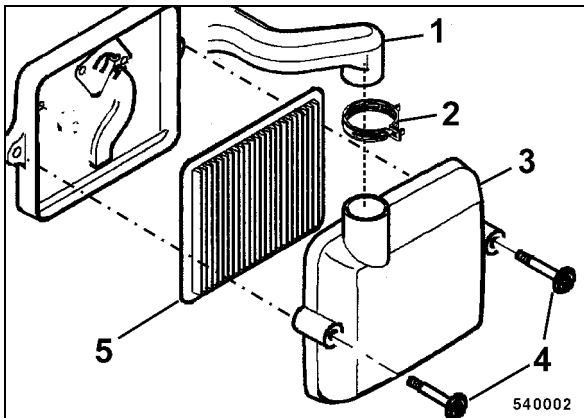

Fig. 57
- Loosen hose clamp (2) (Fig. 57) and pull the air supply hose (1) off the air filter housing.
- Unscrew two fastening screws (4) and remove cover (3) from the air filter housing.
- Pull the air filter (5) out of the housing.